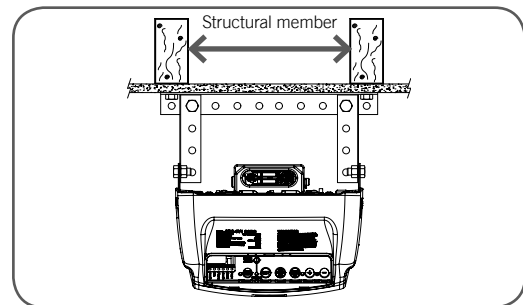

Fig. 13
- Secure the perforated angle (not supplied) to the ceiling above where powerhead's mounting holes will be once fully installed. A representative mounting is shown (**Fig. 13**).
- Connect the powerhead to the ceiling mounted perforated angle with M8x20mm screws and nuts. Strips should not extend more than 18mm below centre of powerhead mounting holes (**Fig. 13**).
- Secure the perforated angle (not supplied) to the ceiling above where powerhead's mounting holes will be. See (Fig.13) for a representative mounting.
- Connect the powerhead to the ceiling mounted perforated angle with M8x20mm screws and nuts. Strips should not extend more than 18mm below centre of powerhead mounting holes (Fig. 13).